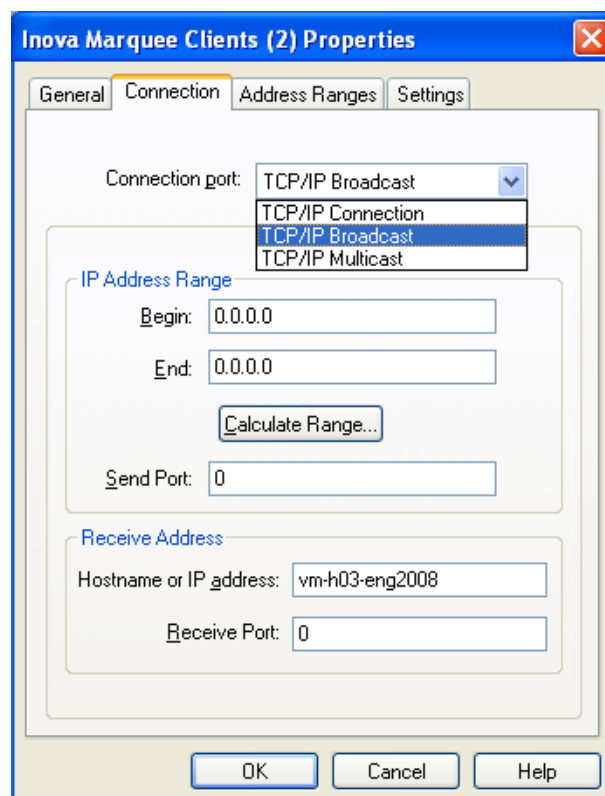

Figure 16
5. Select the Connection tab from the Properties dialog (Figure 16).